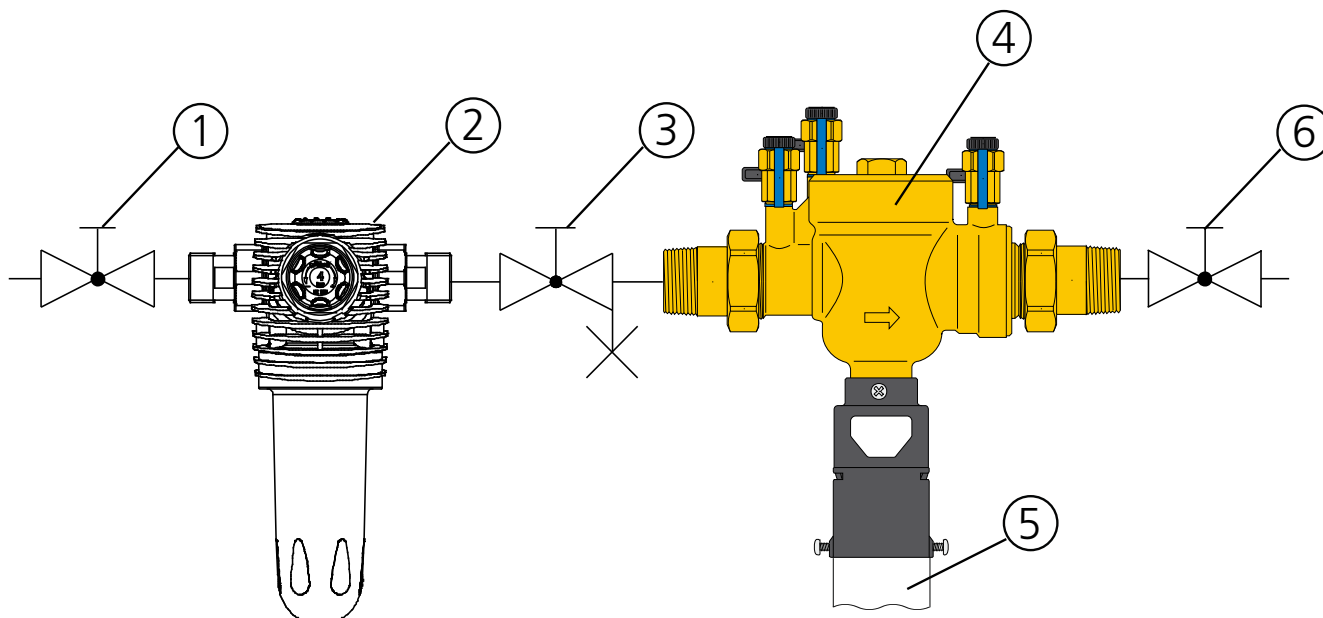

Fig. D-1: Installation example Euro system separator GENO®-DK 2
- Install according to installation drawing (Fig. D-1).